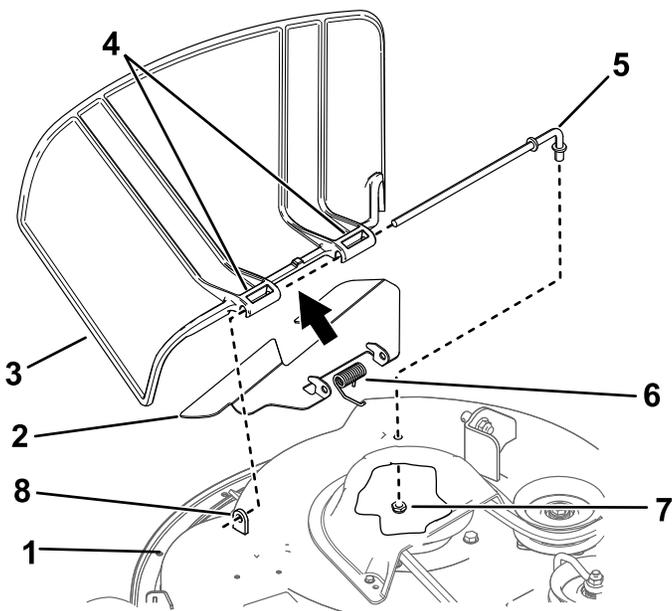

Figure 74
1. Remove the nut (3/8 inch) from the rod under the mower (Figure 74).
2. Slide the rod out of the short stand-off, spring, and grass deflector (Figure 74).
4. Install the new grass deflector (Figure 74).
7. Slide the rod through the second grass-deflector pivot (Figure 74).
9. Secure the rear end of the rod into the mower with a nut (3/8 inch) as shown in Figure 74.